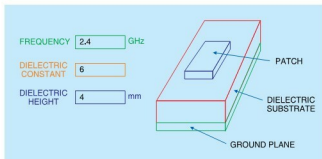

Fig. 2: User's input example
4. On the very first screen, the program prompts you to give input parameters like the frequency in GHz, the dielectric constant, and the height of the dielectric constant in millimetres. A typical example for a user's input is shown in the screenshot Fig. 2.